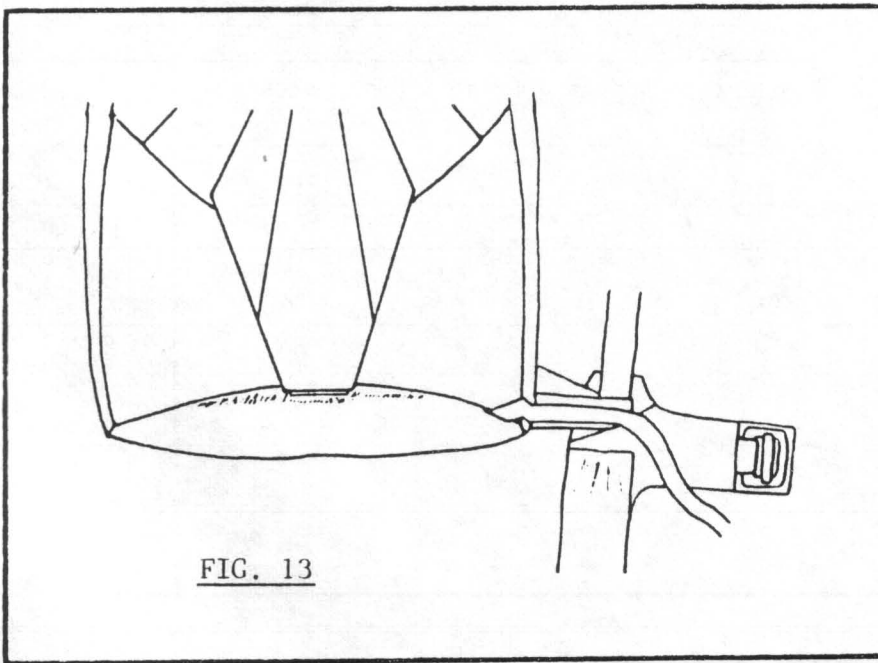

FIG. 13
- 14) Close the top flap protector by tucking the "tongue" underneath the flaps (FIG. 13). At this point be sure that the bridle goes from the container to the pilot chute without passing under or through any part of the harness.